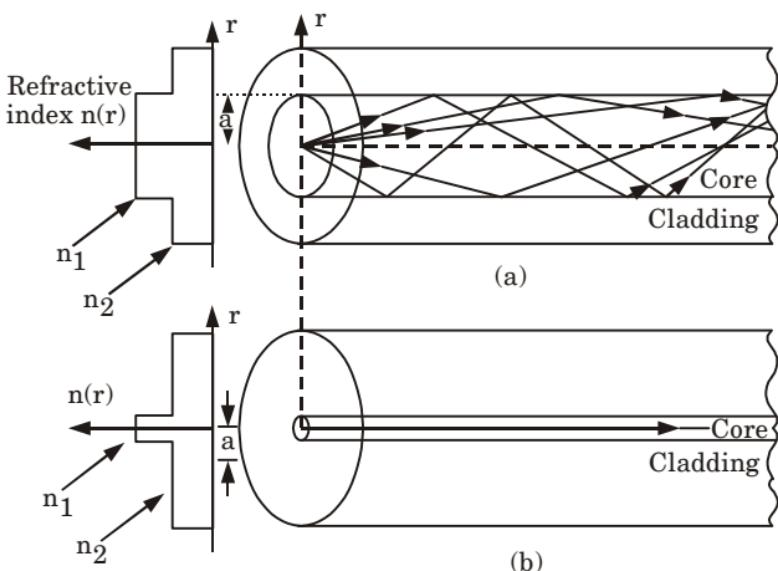

Fig. 5. The refractive index profile and transmission in step index fibers : (a) multimode step index fiber ; (b) single-mode step index fiber.
5. The Fig. 5 shows a multimode step index fiber and single mode step fiber. In multimode step index fiber core diameter is around 50 μm or greater, which is large enough to allow the propagation of many modes within the fiber whereas single mode step index fiber has a very fine thin core, so that only one mode can be propagated.